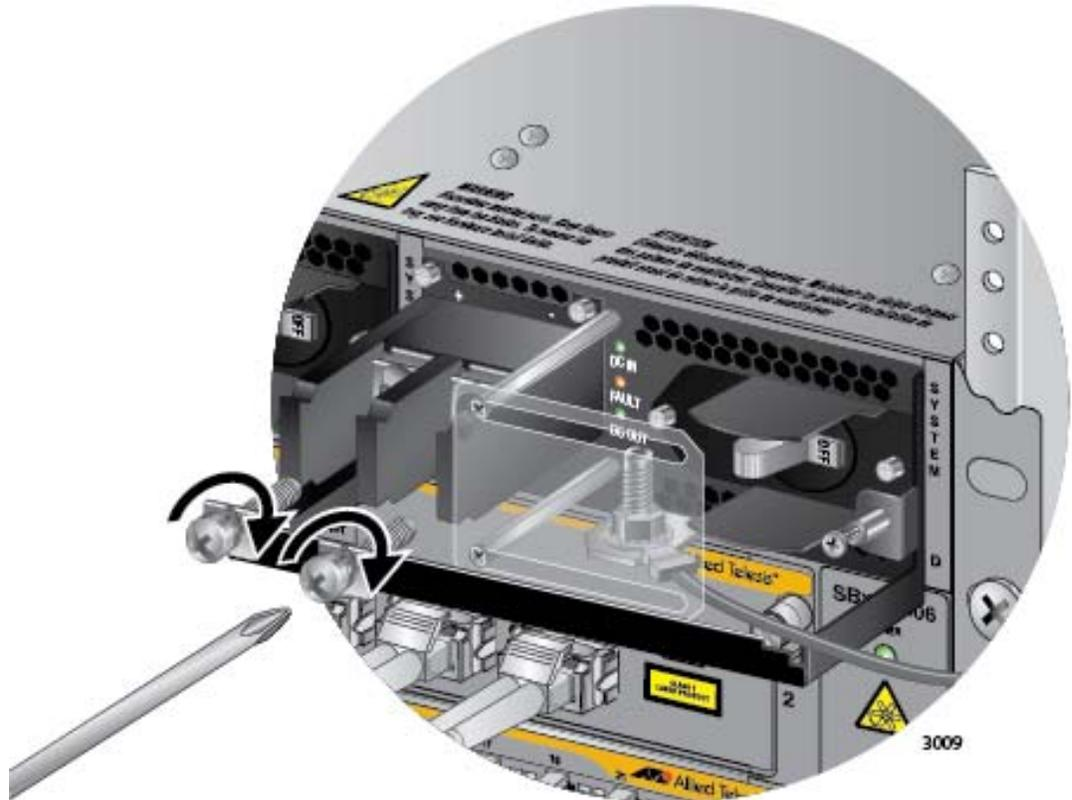

Figure 146. Reinstalling the Screws on the Positive and Negative Terminals
7. Reinstall the two screws on the negative (-) and positive (+) terminals. Refer to Figure 146 on page 215.